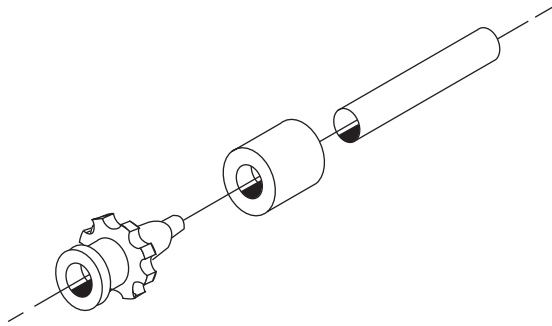

Fig. 5.2. Attachment of tubing fittings.
2. Slip a lock-ring onto one end of the tubing. See below for the size and color of each lock-ring. Insert a barbed female luer-fitting into the same end until the tubing reaches the flange of the fitting. Clamp the luer-fitting into place by sliding the lock-ring along the tubing over the barbed fitting (see Figure 5.2). Repeat on the other end of tubing.